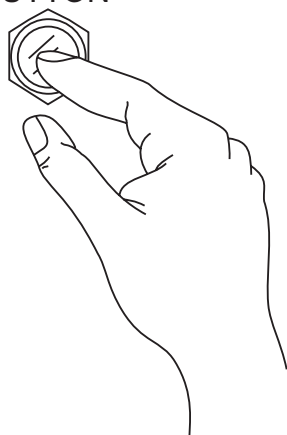

Figure 95. Hour Check Button
1. With the engine stopped (**OFF**), push and hold the **Hour Check button** (Figure 95) located on the control panel.